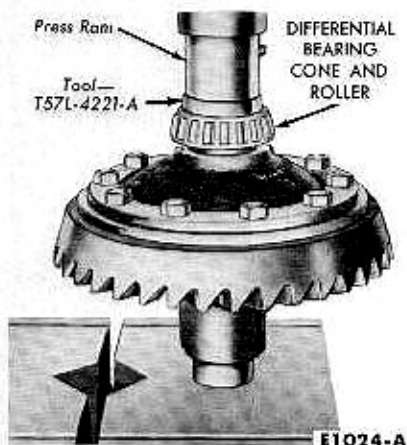

FIG. 18—Differential Bearing Installation
7. If the differential bearings have been removed, press them on as shown in Fig. 18.